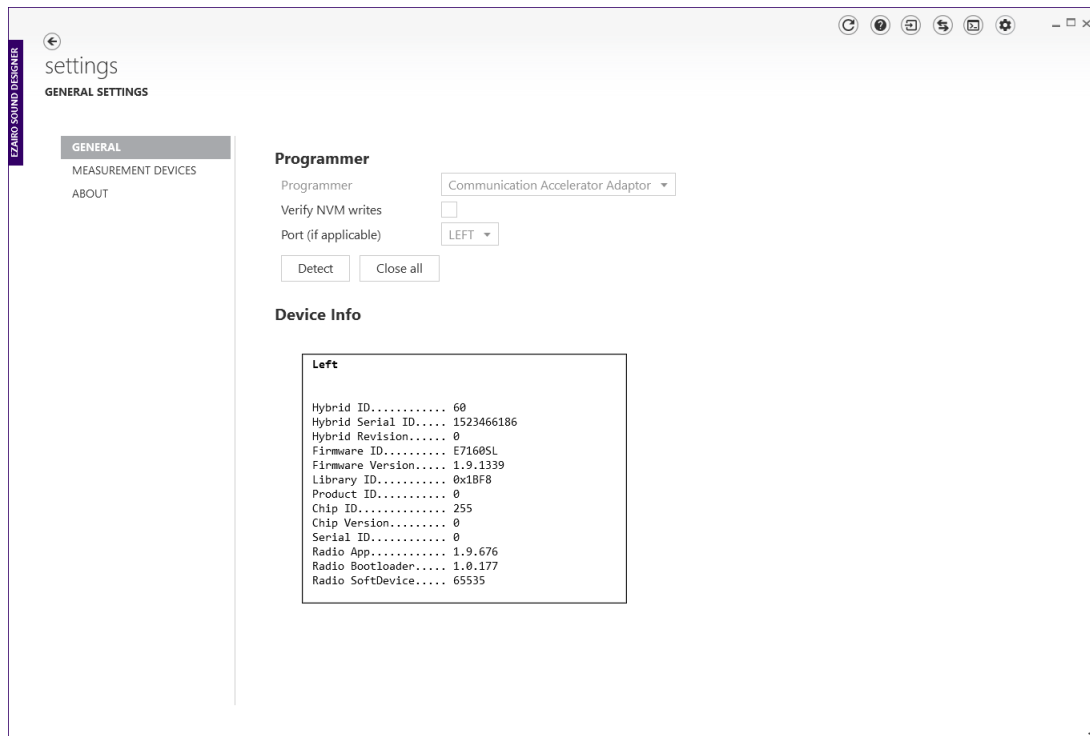

Figure 10. Detecting the Device
6. To connect to the device, go to the **Settings** screen. Select the correct **Programmer**, and **Port** if applicable. Next, click **Detect**. A successful detection populates the device information in the **Device Info** box, as shown in Figure 10 on page 16.